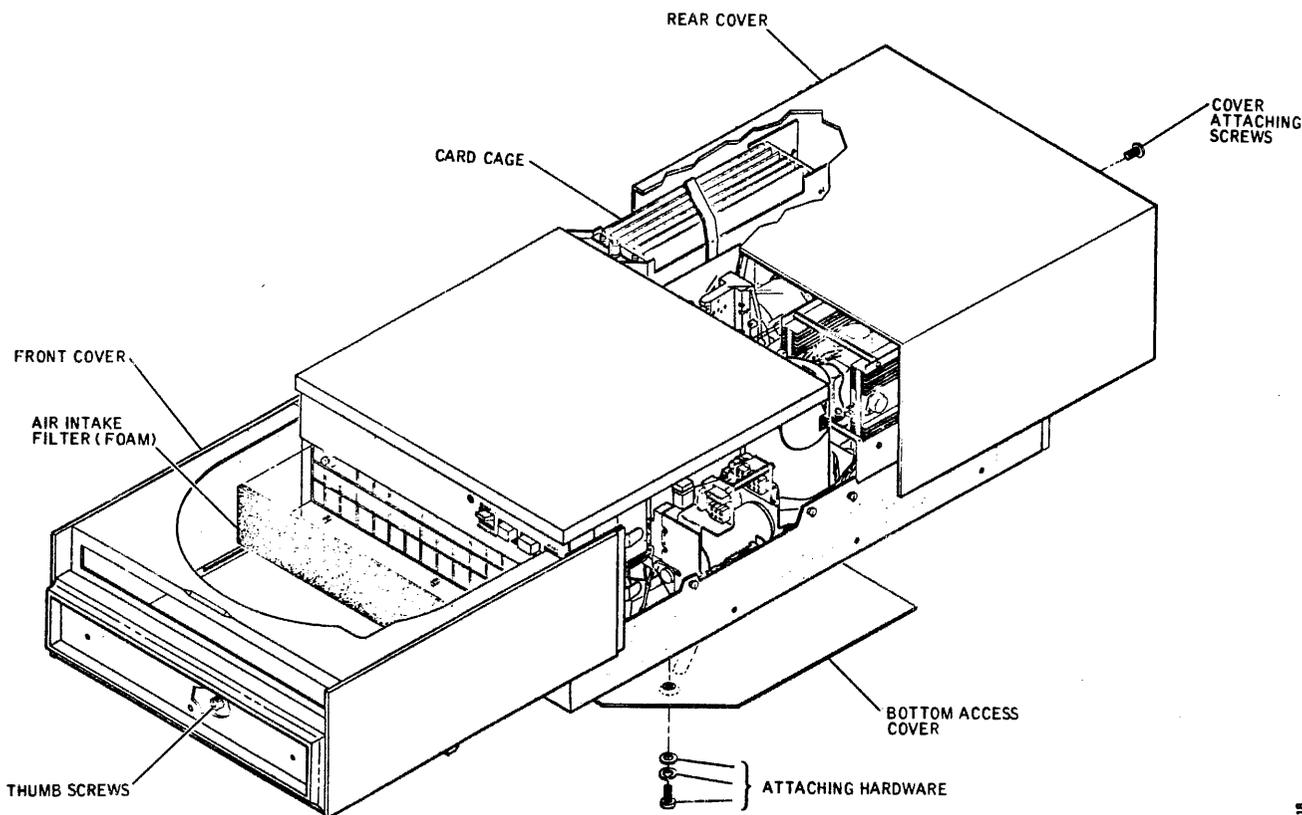

Figure 3-29. Front and Rear Cover and Bottom Access Cover Removal (Exploded View)
2. Remove the front panel and rear cover from the disk drive. Refer to Figure 3-29.